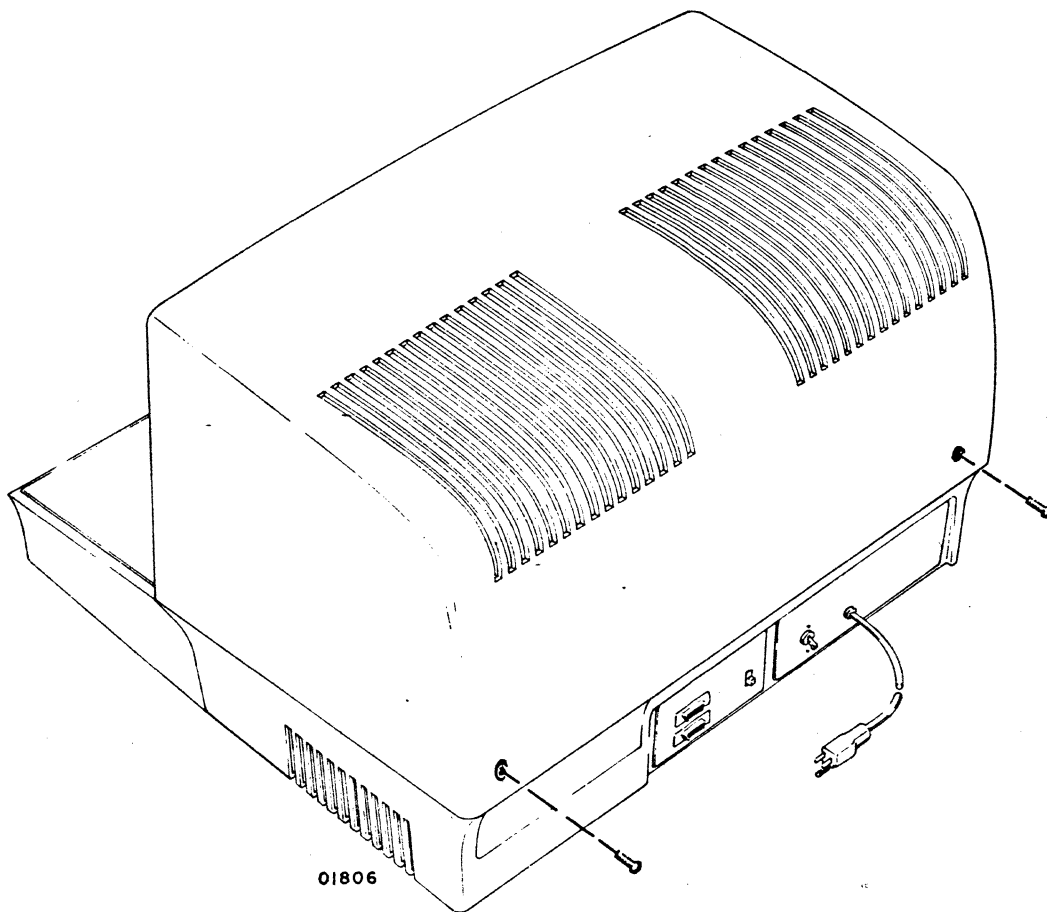

Figure 3-2. Cabinet Hood Removal
- 2) Remove cabinet hood by unscrewing two mounting screws in rear of cabinet hood (figure 3-2), and sliding hood back and up.
To uncrate the nonimpact printer, refer to figure 3-2 and proceed as follows: